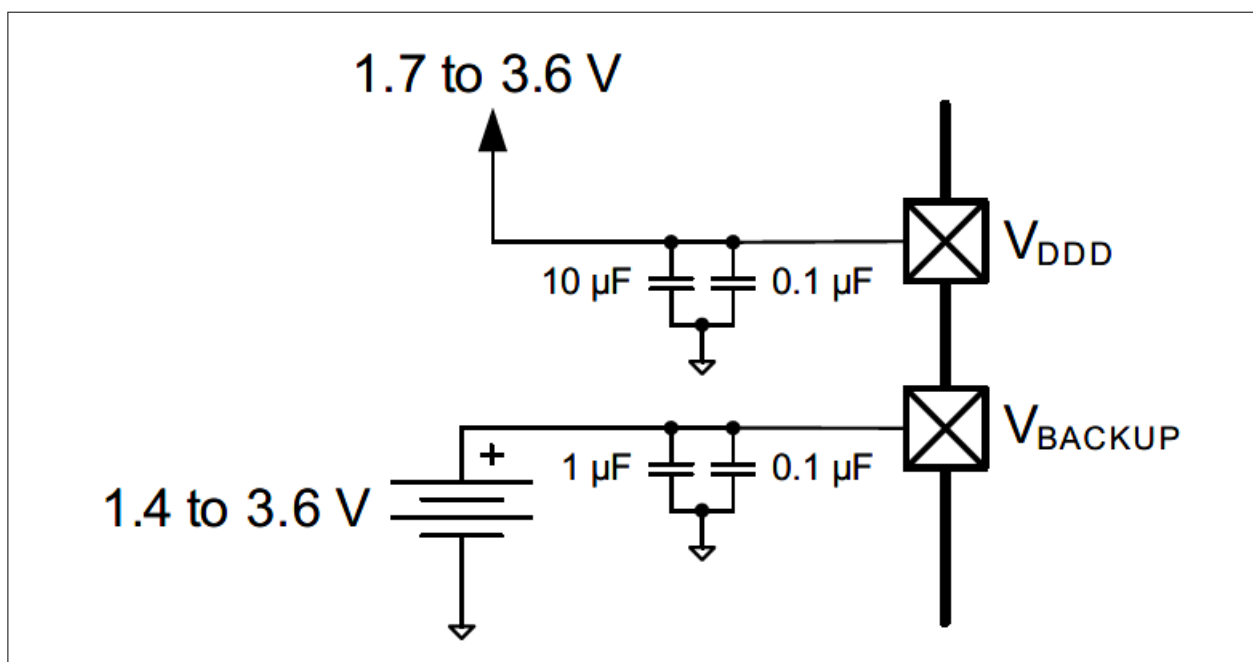

Figure 17 Separate battery connection to V_{BACKUP}
- V_{BACKUP} : the supply for the backup domain, which includes the 32-kHz WCO and the RTC. It can be a separate supply as low as 1.4 V, for battery or supercapacitor backup, as Figure 17 shows, otherwise it is connected to V_{DD} . It powers I/O port 0²⁾